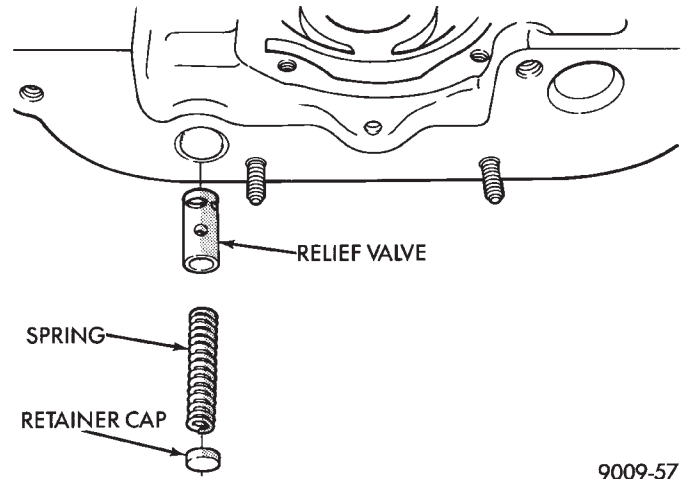
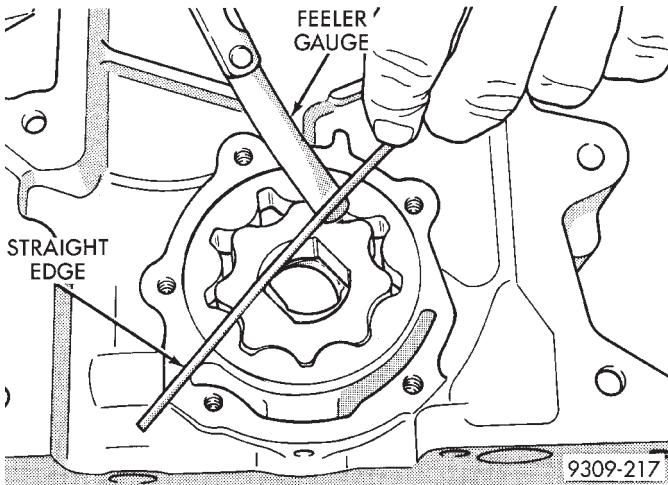

Fig. 5 Oil Pressure Relief Valve
Fig. 12 Measuring Clearance Over Rotors
- (1) To remove the relief valve, proceed as follows:
- (b) Clamp screw into a vise and while supporting chain case cover (CCC), remove cap by tapping CCC using a soft hammer. Discard retainer cap and remove spring and relief valve (Fig. 5).
(7) Place a straightedge across the face of the CCC, between bolt holes. If a feeler gauge of .102mm (.004 inch) or more can be inserted between rotors and the straightedge, replace pump assembly (Fig. 12). **ONLY** if rotors are in specs.
(8) Inspect oil pressure relief valve plunger for scoring and free operation in its bore. Small marks may be removed with 400-grit wet or dry sandpaper.
(9) The relief valve spring has a free length of approximately 49.5mm (1.95 inches) it should test between 19.5 and 20.5 pounds when compressed to 34mm (1-11/32 inches). Replace spring that fails to meet specifications (Fig. 5).